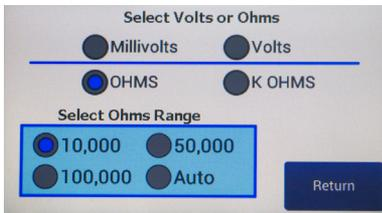

Fig. 47—Select the mode. For resistance measurements, choose OHMS or K OHMS. Then select the range.
3. Press the **Mode Units** button and choose either OHMS or KOHMS for making resistance measurements (Fig. 47).
4. Select the resistance range (Auto, 100KΩ, 50KΩ or 10KΩ) and press the **Return** button (Fig. 47).